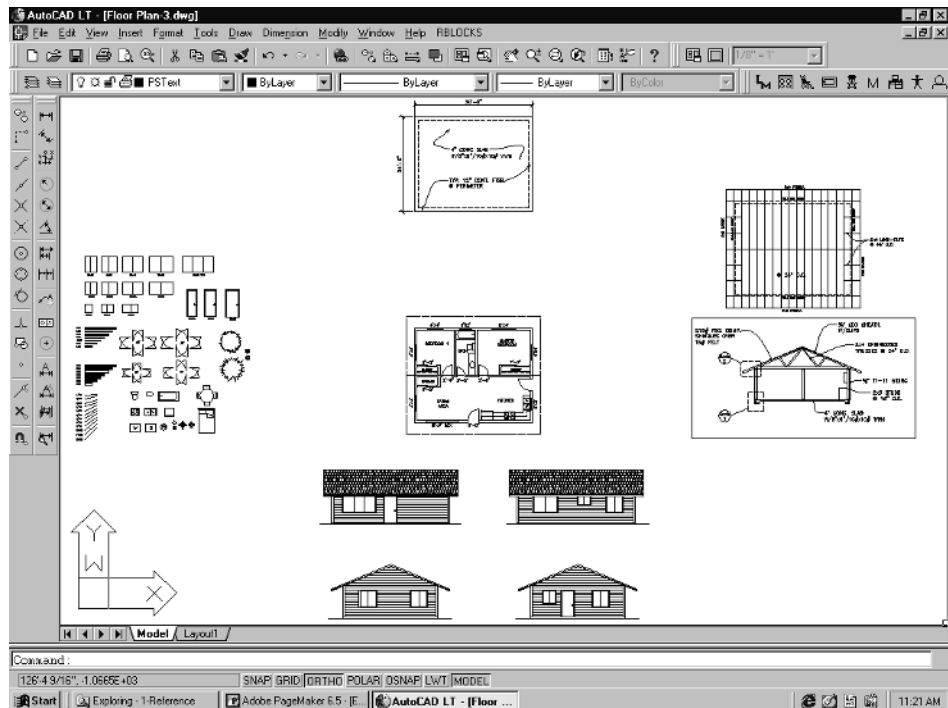
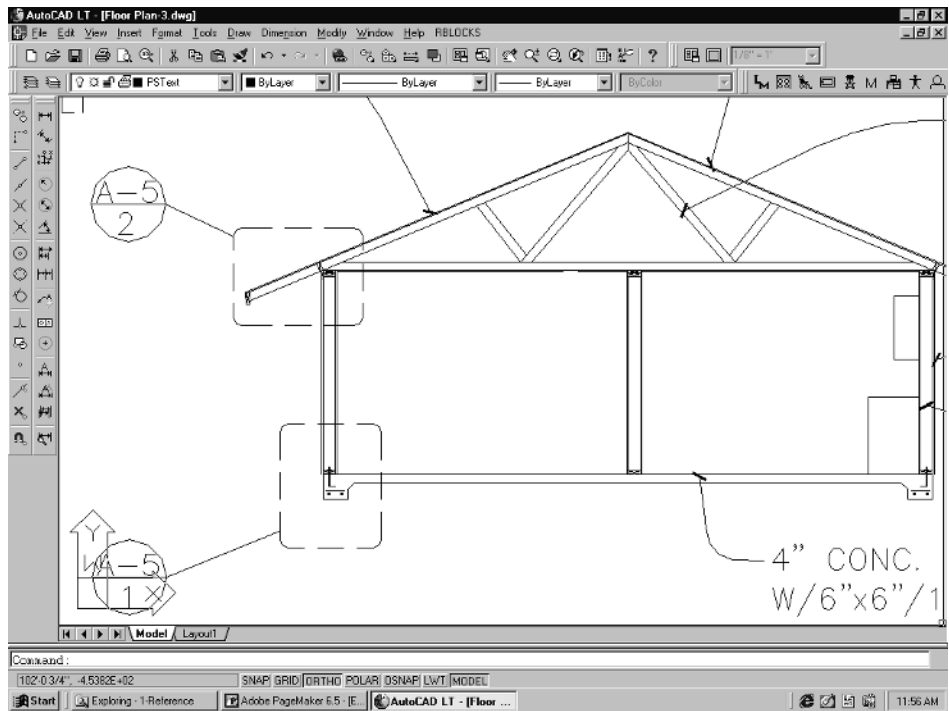

Figure 5-1
Figure 5-2
1. **Zoom|Extents** so that you can see the whole drawing as in Figure 5-1. Then **Zoom|In** to the section as shown in Figure 5-2. You will be copying the pieces of the section, like the footing area and the rafter/wall area, and moving them over into a clear area of the screen.